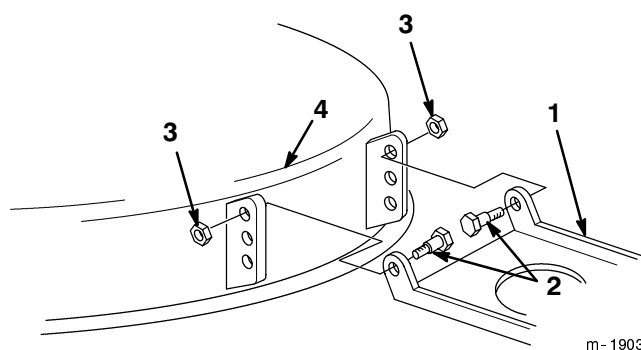

Figure 49
11. If the 1/4 to 5/8 in. (6 to 16 mm) front slope cannot be achieved by rotating the slope adjusting nut, move the mower pivot mount at the mower (Fig. 49).
12. Remove the shoulder bolts and locknuts from the mower (Fig. 49).
13. Lower the mower pivot one hole and install the shoulder bolts and locknuts (Fig. 49).